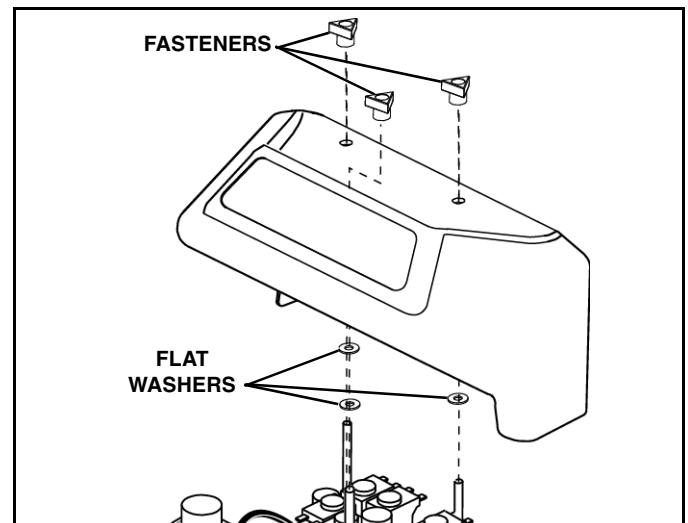

Figure 1-41
19. Ensure that a flat washer is on top of each of the three power unit cover studs and install the cover. Secure with three plastic fasteners. (See Figure 1-41).